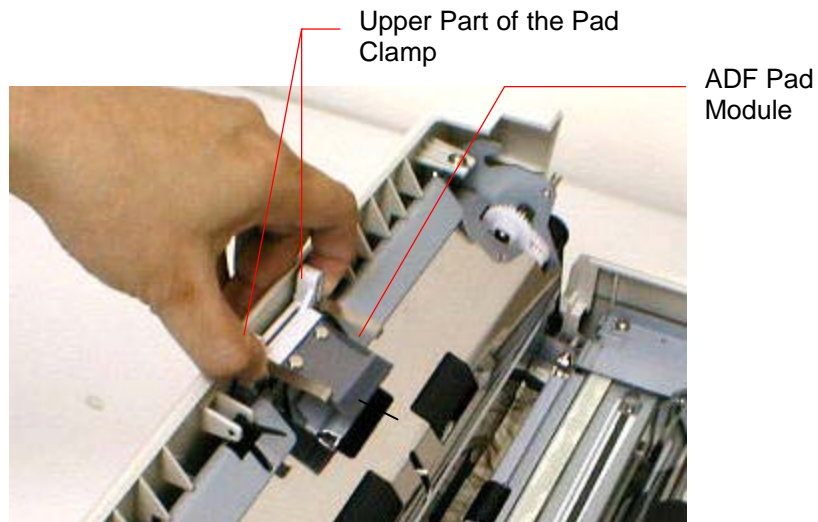

Figure 3-4 Installing the pad module
2. Hold the upper part of the pad clamp and place it gently into the pad holder as shown in Figure 3-4.